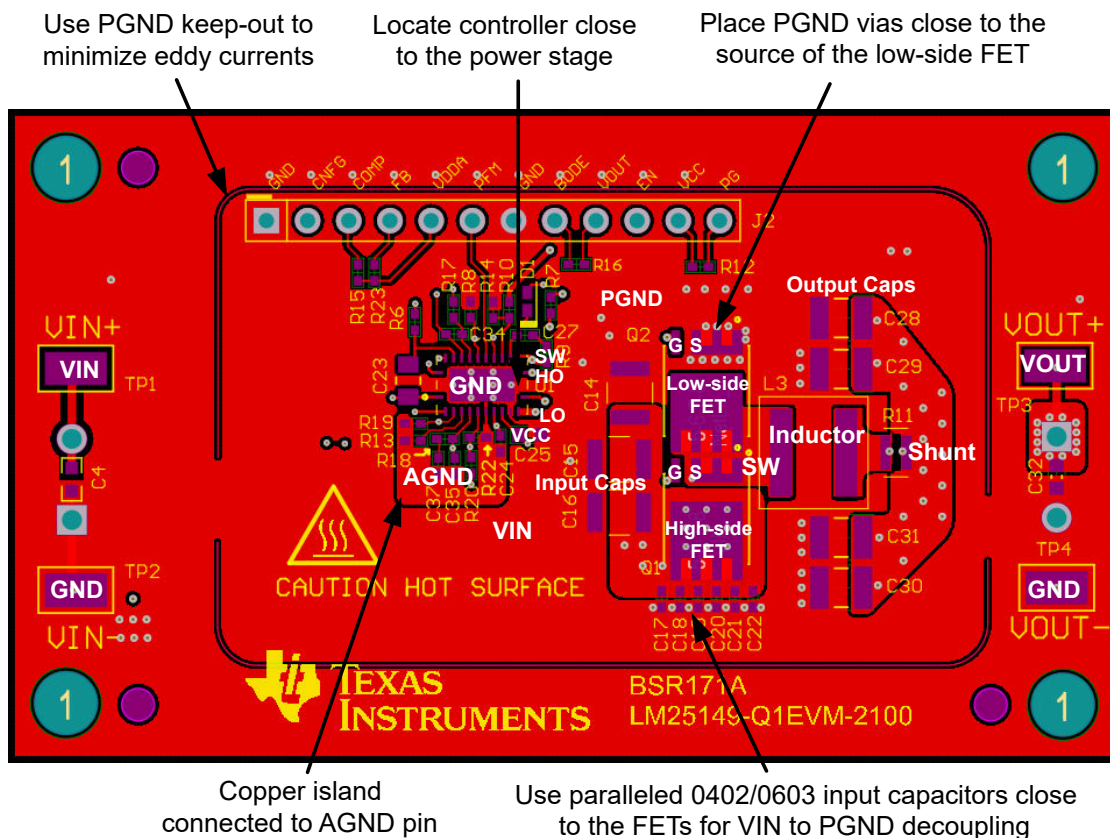

图 9-47. PCB Top Layer – High Density, Single-sided Design
图 9-47 shows a single-sided layout of a synchronous buck regulator with discrete power MOSFETs, Q1 and Q2, in SON 5-mm × 6-mm case size. The power stage is surrounded by a GND pad geometry to connect an EMI shield if needed. The design uses layer 2 of the PCB as a power-loop return path directly underneath the top layer to create a low-area switching power loop of approximately 2 mm². This loop area, and hence parasitic inductance, must be as small as possible to minimize EMI as well as switch-node voltage overshoot and ringing.
- Make the ground connections to the LM5148-Q1 controller as shown in 图 9-47. Create a power ground directly connected to all high-power components and an analog ground plane for sensitive analog components. The analog ground plane for AGND and power ground plane for PGND must be connected at a single point directly under the IC – at the die attach pad (DAP).